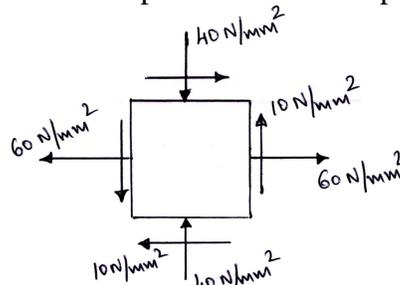

Fig.Q.3(b)
- b. A plane element is subjected to a stresses as shown in Fig.Q.3(b). Determine principal stresses, maximum shear stress and their planes. Sketch the planes determined. (10 Marks)